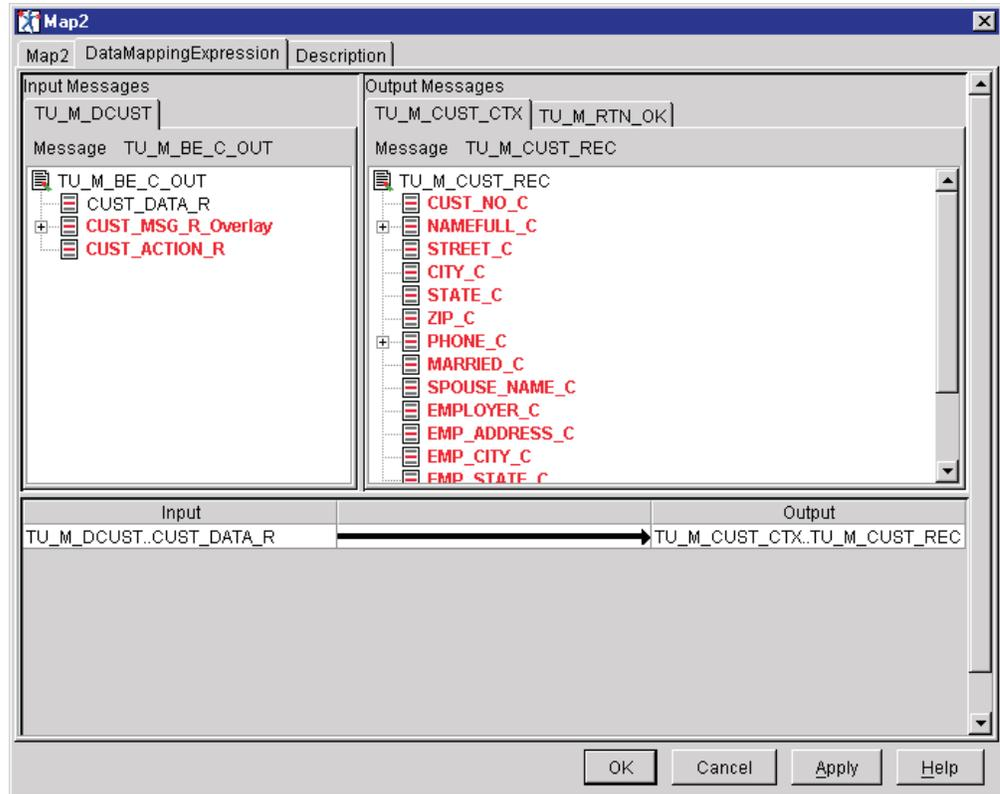
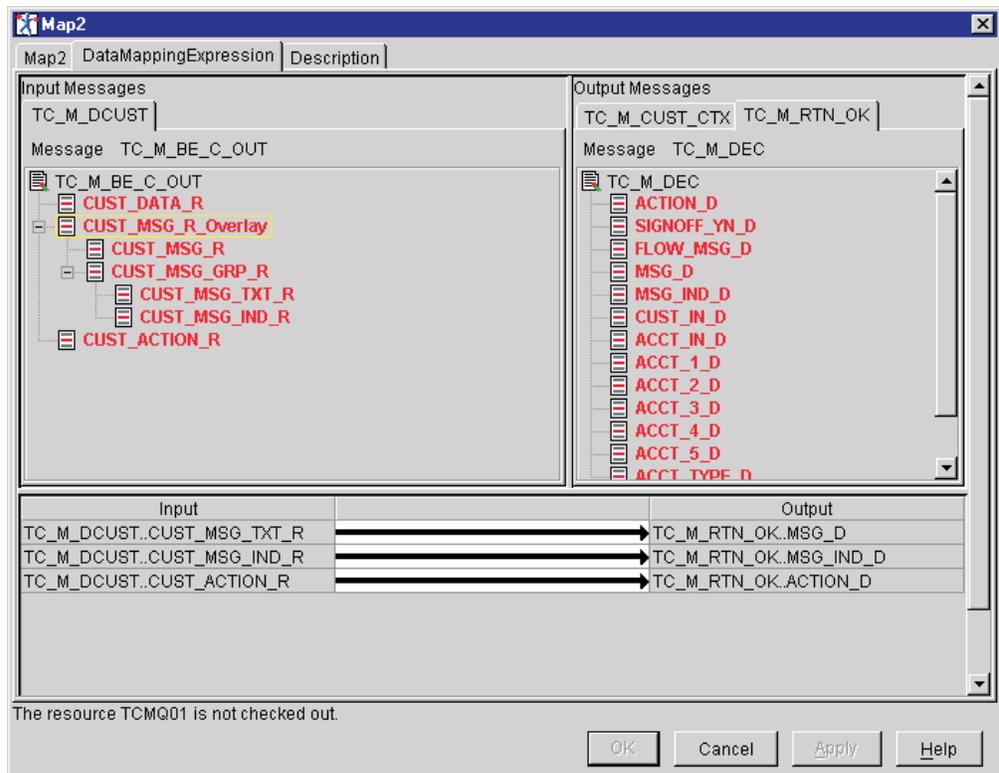

Figure 68. Mapping for Map2 node
Figure 69. Mapping for Map2 node
- 2) Perform the mapping for the Map2 nodes as listed in Table 31 and Table 32 and as shown in Figure 68 on page 99 and Figure 69 on page 100. This map passes the customer data from the MQ program DFHMABP6 to the TU\_M\_RTN\_OK Decision node.